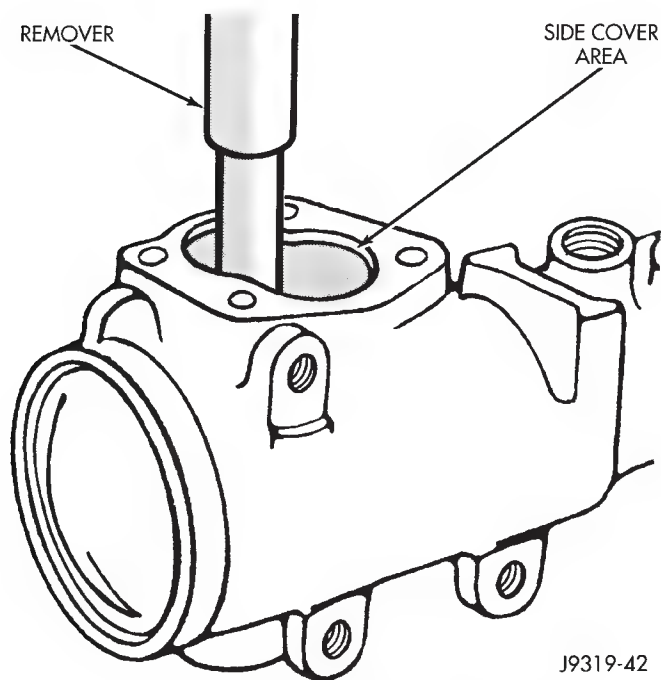

Fig. 37 Needle Bearing Removal
- (4) Remove backup washer and double lip seal with screwdriver.
- (5) Remove backup washer and single lip seal with screwdriver.
- (6) Inspect the housing for burrs and remove if necessary.
- (7) Remove needle bearing from side cover area of housing using tool C-4177 and handle C-4171 (Fig. 37).